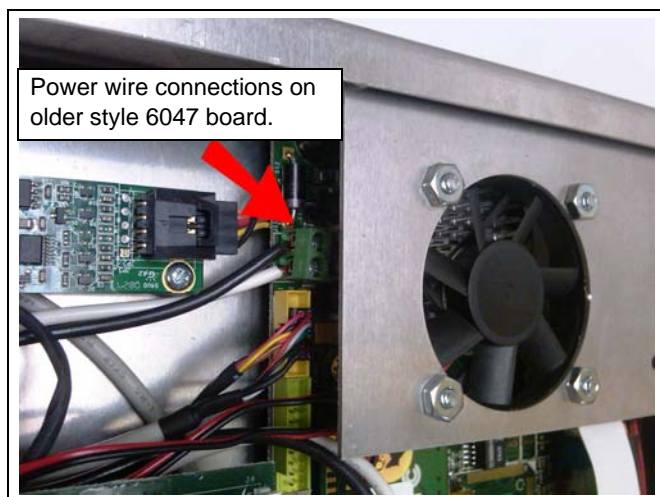
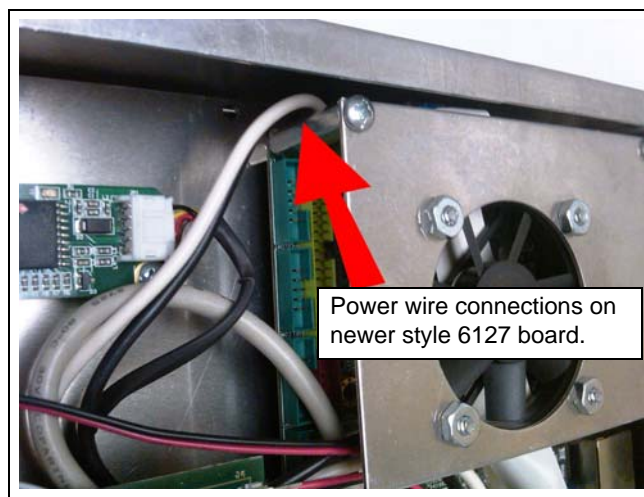

Figure 7 6047 Board Use **D03-0753DISK-203-2**
Figure 8 6127 Board Use **D03-0753DISK-203**
3. Determine if the Vision display is the 1st or 2nd generation by reviewing the location of the black and white wires as shown in Figure 7 and Figure 8.